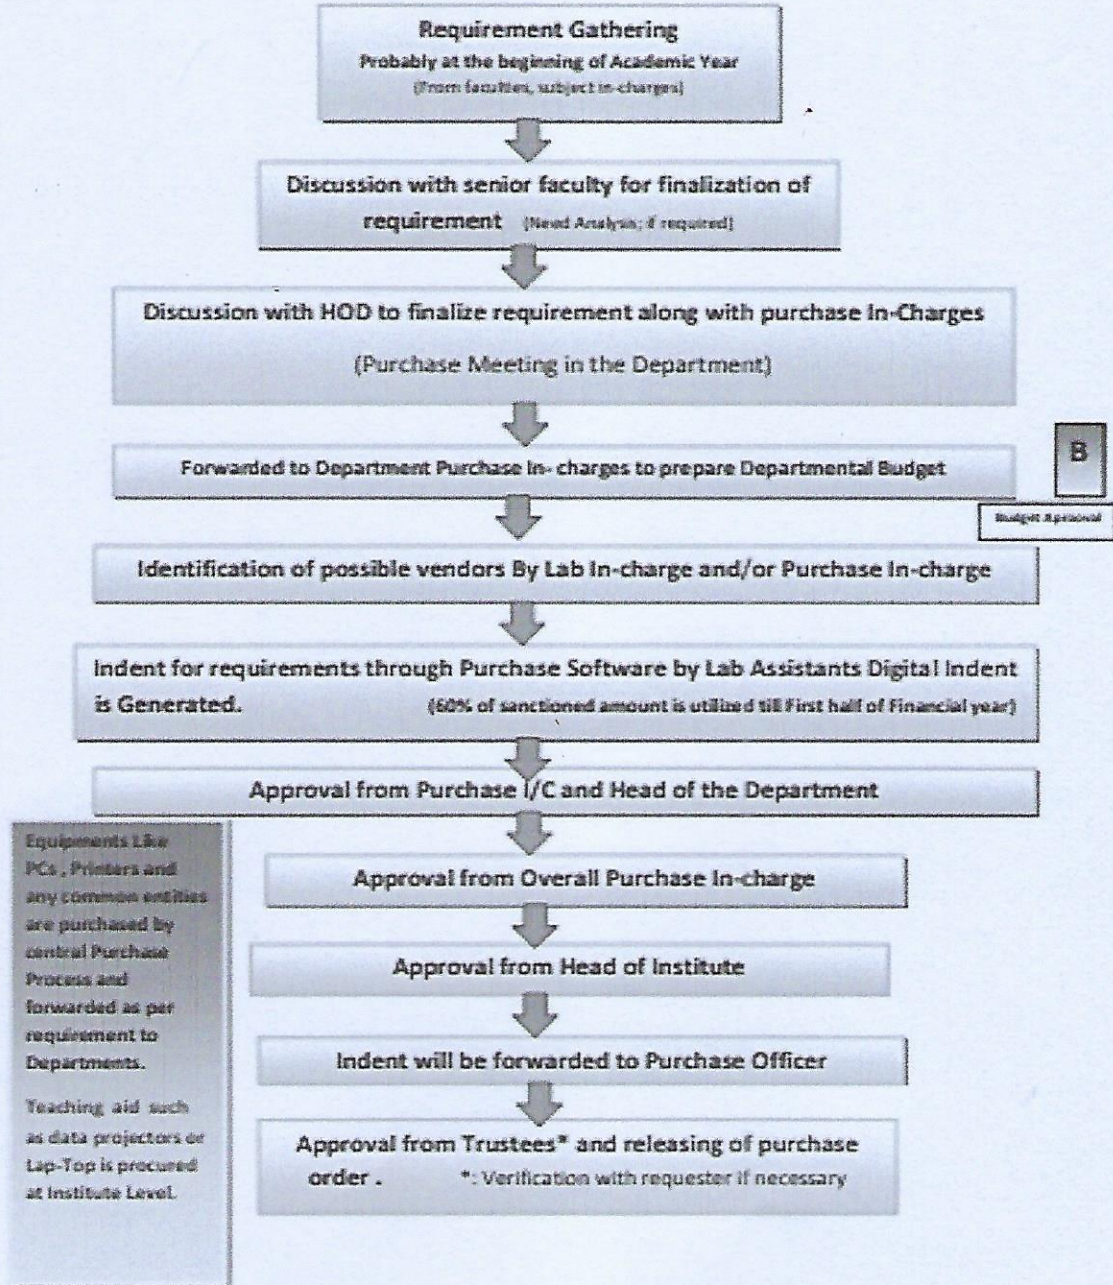

Figure 2 : Purchase / Procurement Process
5.2 Centralized Procurement/Purchase Procedure : (As shown in Figure 2)